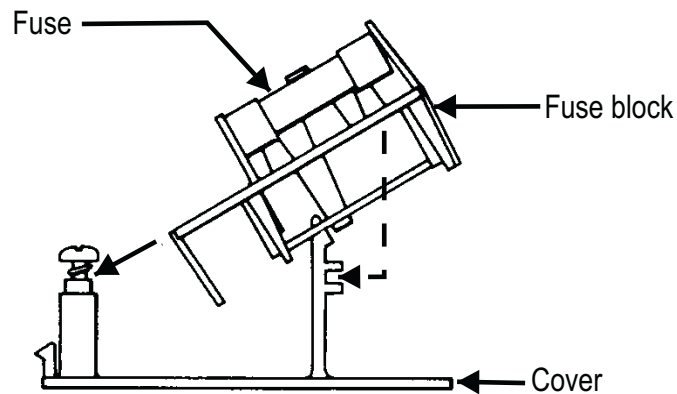

Figure 8. Changing fuse types
3. On the back of the cover, loosen the Philips screw two turns, then remove the fuse block by sliding up, then away from the screw and lifting from pedestal at the other end (refer to Figure 8).